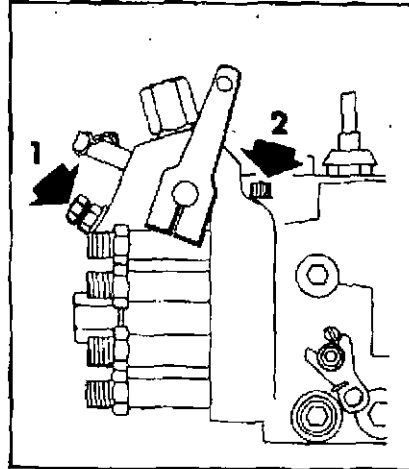

Fig. 24
- (c) Unscrew the vent screw (see item 1, Fig. 24) on the rear of the fuel pump by two or three turns. Operate the priming plunger until air free fuel flows from the venting point and tighten the vent screw. Lock priming lever into lift pump with the clip.
- (d) Remove the vent plug and washer from the top right hand side of the fuel injection pump (see item 2 — Fig. 24). Crank engine over on starter motor with stop control in run position until air free fuel flows from this venting point. Refit vent plug and washer.